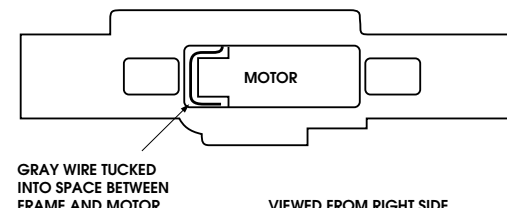

Fig. 3
- Your decoder and motor are now ready to be installed into the frame. With the left mainframe laid out in front of you (front to your right), install the motor with the orange wire on the top. The GRAY wire goes on bottom as shown (Fig. 3). Inspect brush wires to be sure they are not touching frame.